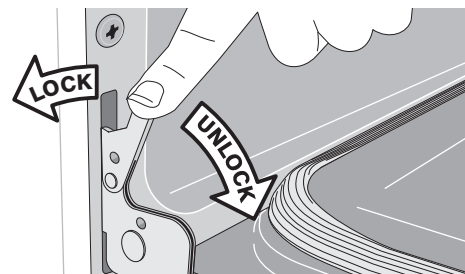

Figure 34: Door hinge locks
2. Pull the door hinge locks on both left and right door hinges down from the oven frame completely towards the oven door (See Figure 34). A tool such as a small flat-blade screwdriver may be required.
4. Push the door hinge locks up towards and into the oven frame on both left and right oven door hinges to the locked position (See Figure 34).